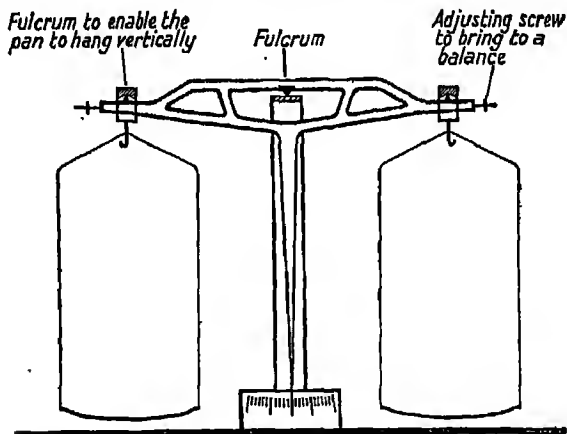

FIG. 141. A diagram of a balance to show the moving parts.
8. The **balance** (Fig. 141). This is a very important application of the principle of the lever. If the arms are alike in all respects, including length, then there is a balance when equal weights